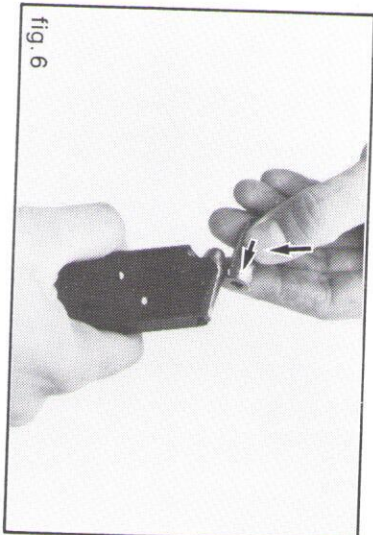

fig. 6
2. Press the cartridge down, slide it under the magazine lips and push the cartridge all the way to the rear of the magazine (fig. 6).
- The number of cartridges in the magazine can be seen through the indicator holes in both sides of the magazine (fig. 6).